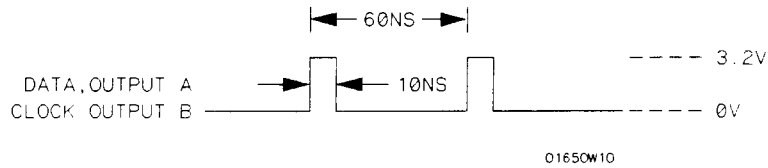

Figure 3-4. Waveform for Data Test 1
- Adjust the pulse generator for the output in figure 3-4.